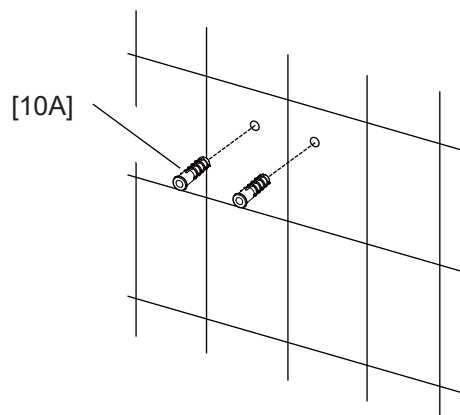

Fig 3.2
**3-2** Install the **Anchors [10A]**. (Fig 3.2)